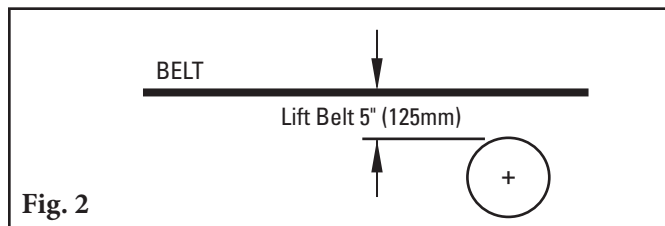

Fig. 2
- 2. Lift the belt** approximately 3" (76mm) where the trainer will be installed. Remove existing idler (if applicable) (Fig. 2). **NOTE:** If the conveyor has disc idlers, replace one idler with a standard idler before and after the location where the trainer will be installed.
2. **Lift the belt** approximately 5" (125mm) where the trainer will be installed. Remove existing idler (if applicable) (Fig. 2). **NOTE:** If the conveyor has disc idlers, replace one idler with a standard idler before and after the location where the trainer will be installed.